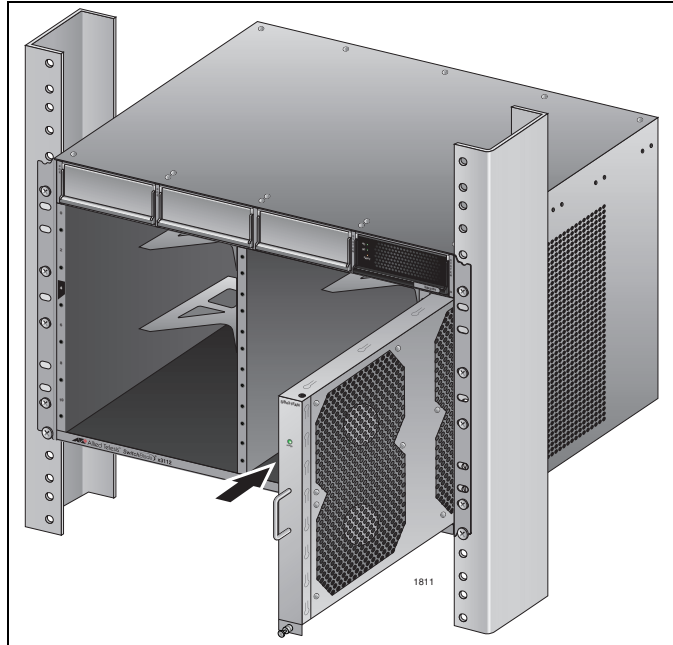

Figure 54. Inserting the AT-SBx31FAN Tray into the Chassis
2. Insert the AT-SBx31FAN Tray into the vertical slot on the right side of the chassis into the slot as displayed in Figure 54 until it is firmly seated against the front mounting rails of the chassis.